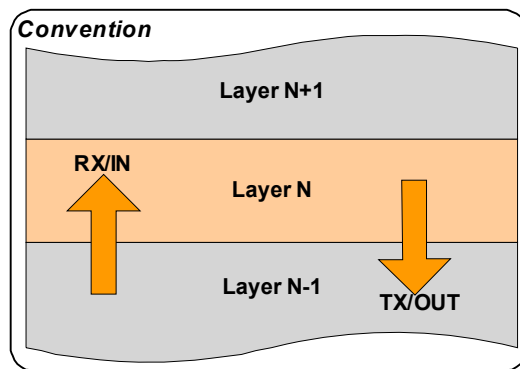

Figure 62 - RX and TX Convention
All statistics presented by Dataradio follow a convention presented in Figure 62. Layer  $n$  statistics are given with respect to the layer immediately below it: layer  $n-1$ . RX (Receive) or IN refers to data received by layer  $n$  from layer  $n-1$ . Transmit (TX) or OUT refers to data transmitted by layer  $n$  to layer  $n-1$ .